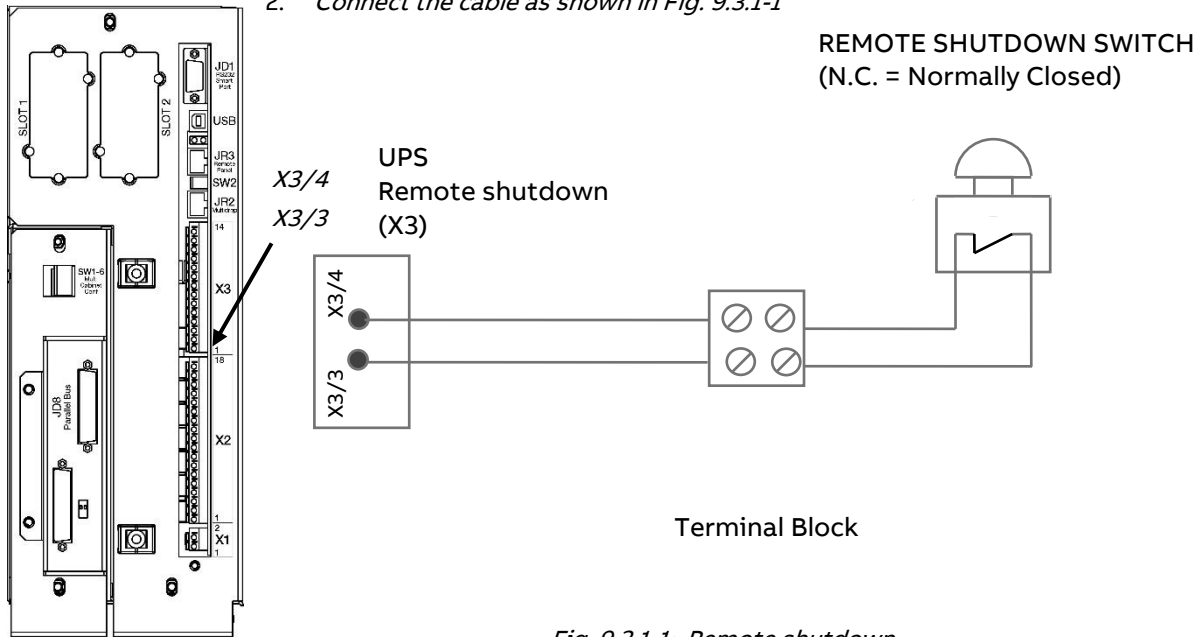

Fig. 9.3.1-1: Remote shutdown
2. Connect the cable as shown in Fig. 9.3.1-1